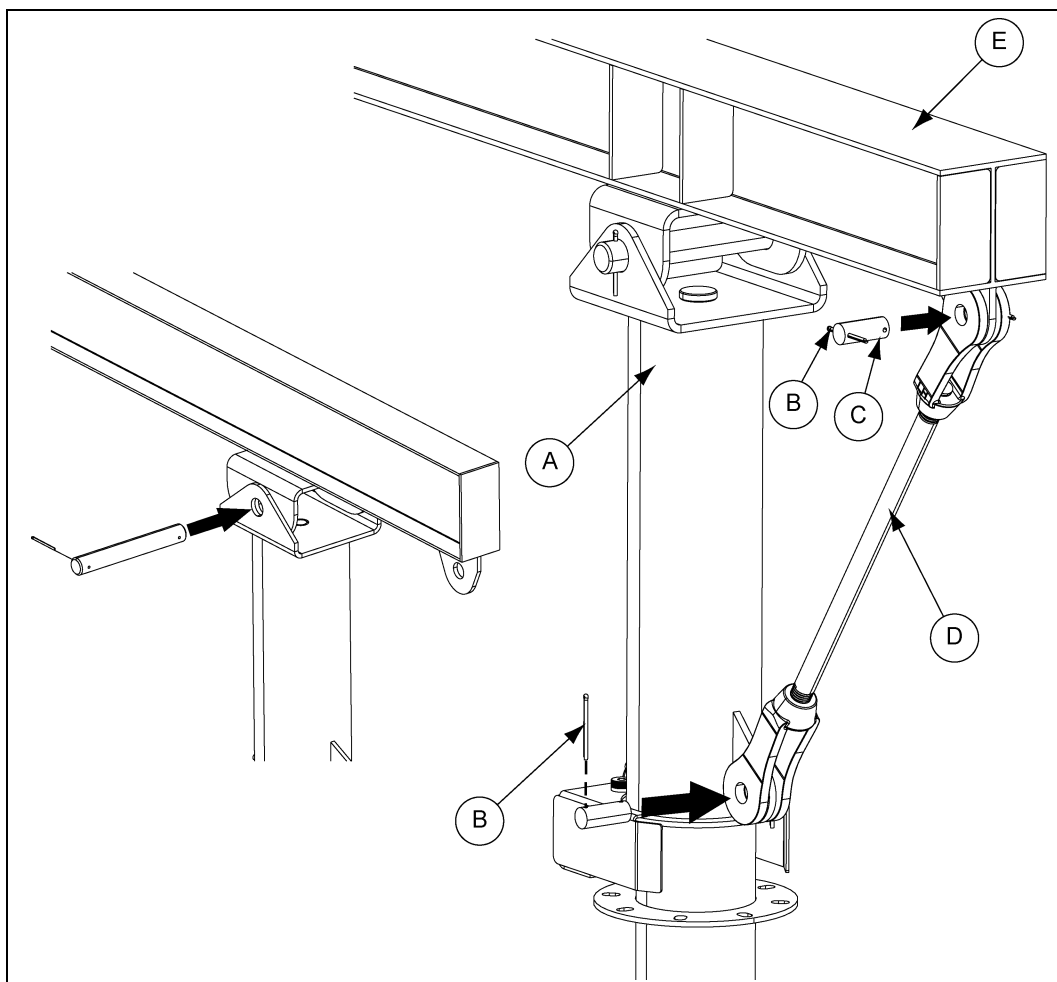

Figure 3H
Insert pivot pin through the turret (A) and the boom (E) assembly and fasten in place with the cotter pins (B) as shown in Figure 3H.